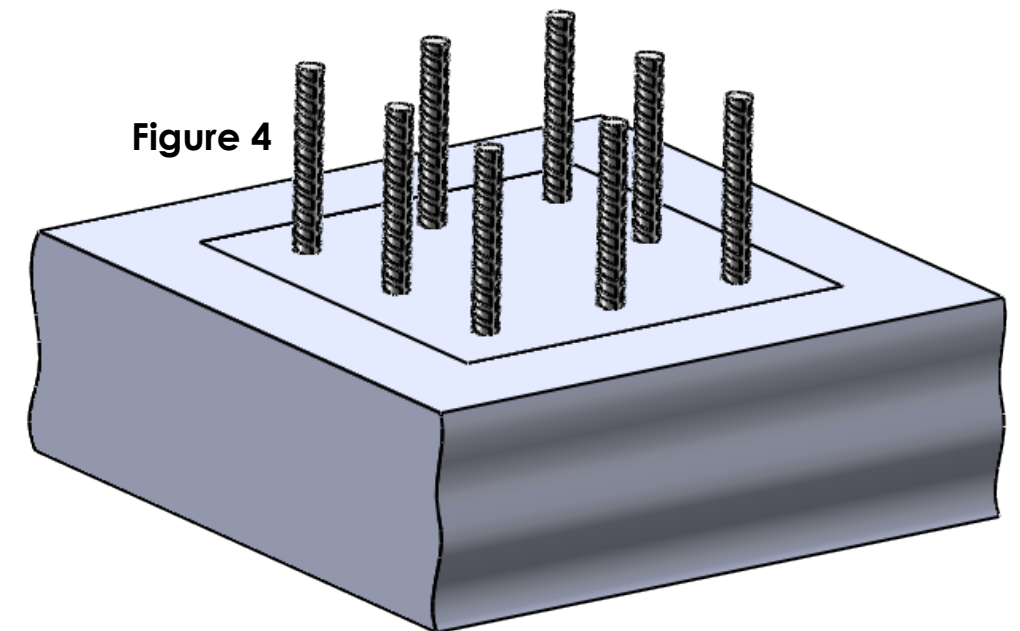

Figure 4
8. Once the concrete is cured, the clamps and template are removed, after which the excess length of dowels can be cut to the proper size. See figure 4. To determine the cut-off length of the dowels, please refer to the nVent LENTON Interlok Instruction Manual. Measure from the top of the shim to accurately determine the amount to remove. Make sure to include joint thickness prior to cutting.